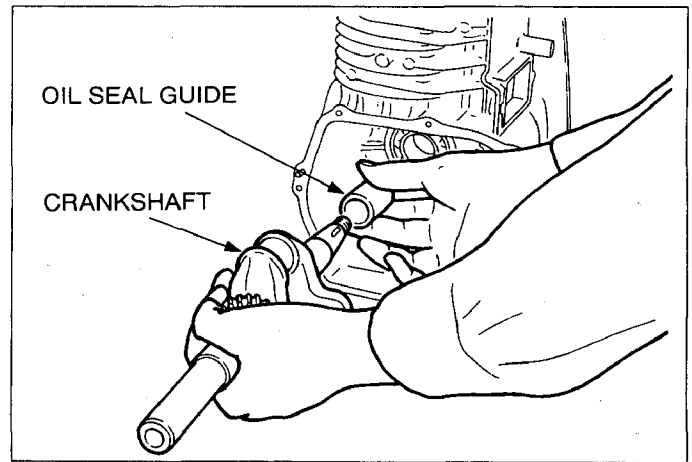

Fig. 5-24
- (1) Install crankshaft on crankcase using an oil seal guide to avoid damage to crankshaft oil seal. (See Fig. 5-24.)